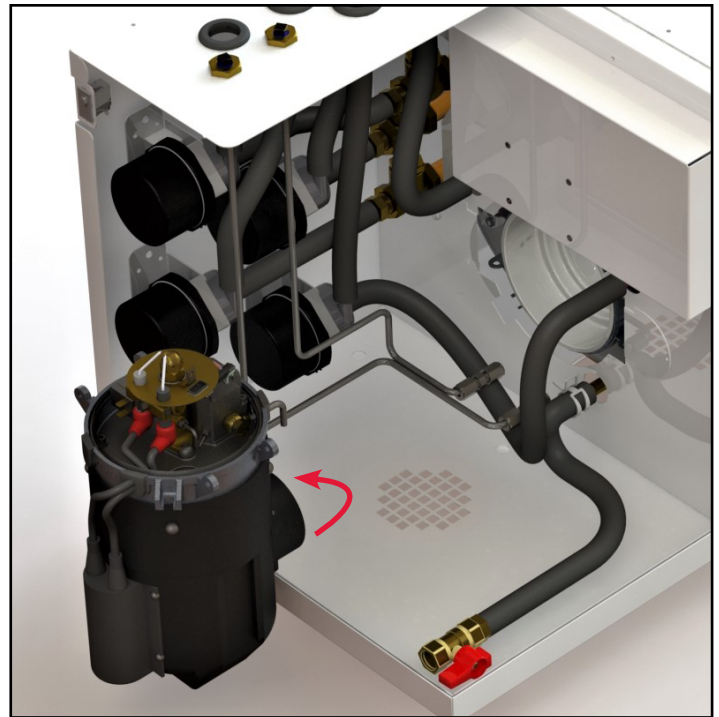

Figure 158
1. Carefully pull the diesel burner away from the Aqua-Hot 4 - 5 inches before rotating the burner, then remove completely as shown in Figure 158.